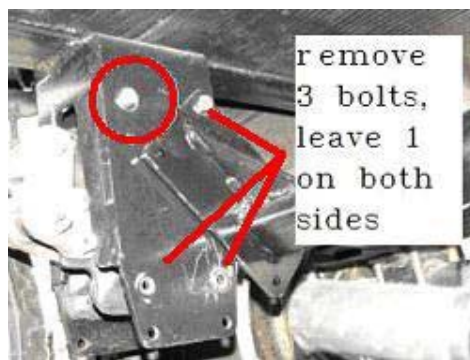

Fig. 2
Step 2 Slide Cross Member in place and put one new bolt (3/8-16 x 1-1/4) through correct hole. This allows the fourth bolt to be removed without the shear spring moving much. See figure 2.